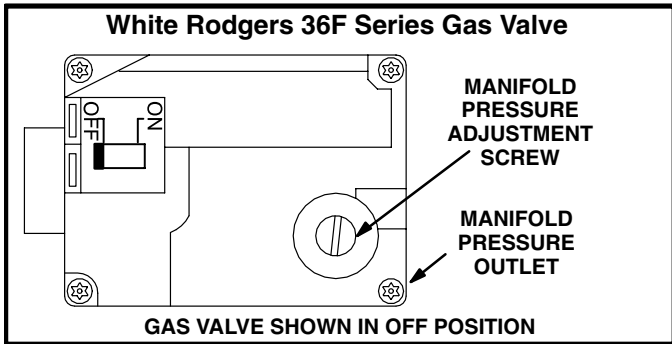
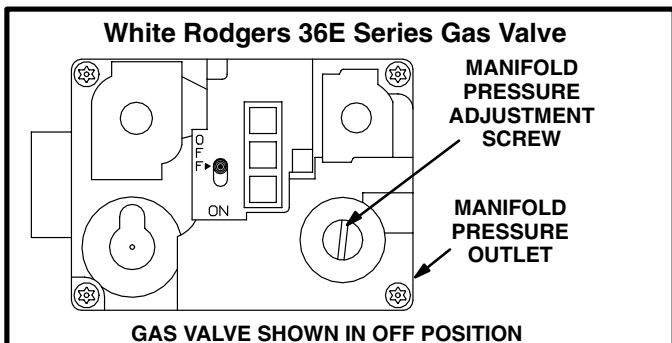

FIGURE 25
FIGURE 26
- 6 - *White Rodgers 36E/36F Gas Valve* - Switch gas valve lever to **OFF**. See figure 25 for the White Rodgers 36F valve and figure 26 for the White Rodgers 36E valve.
- 8 - *White Rodgers 36E/36F Gas Valve* - Switch gas valve lever to **ON**. See figure 25 for the White Rodgers 36F valve and figure 26 for the White Rodgers 36E valve.